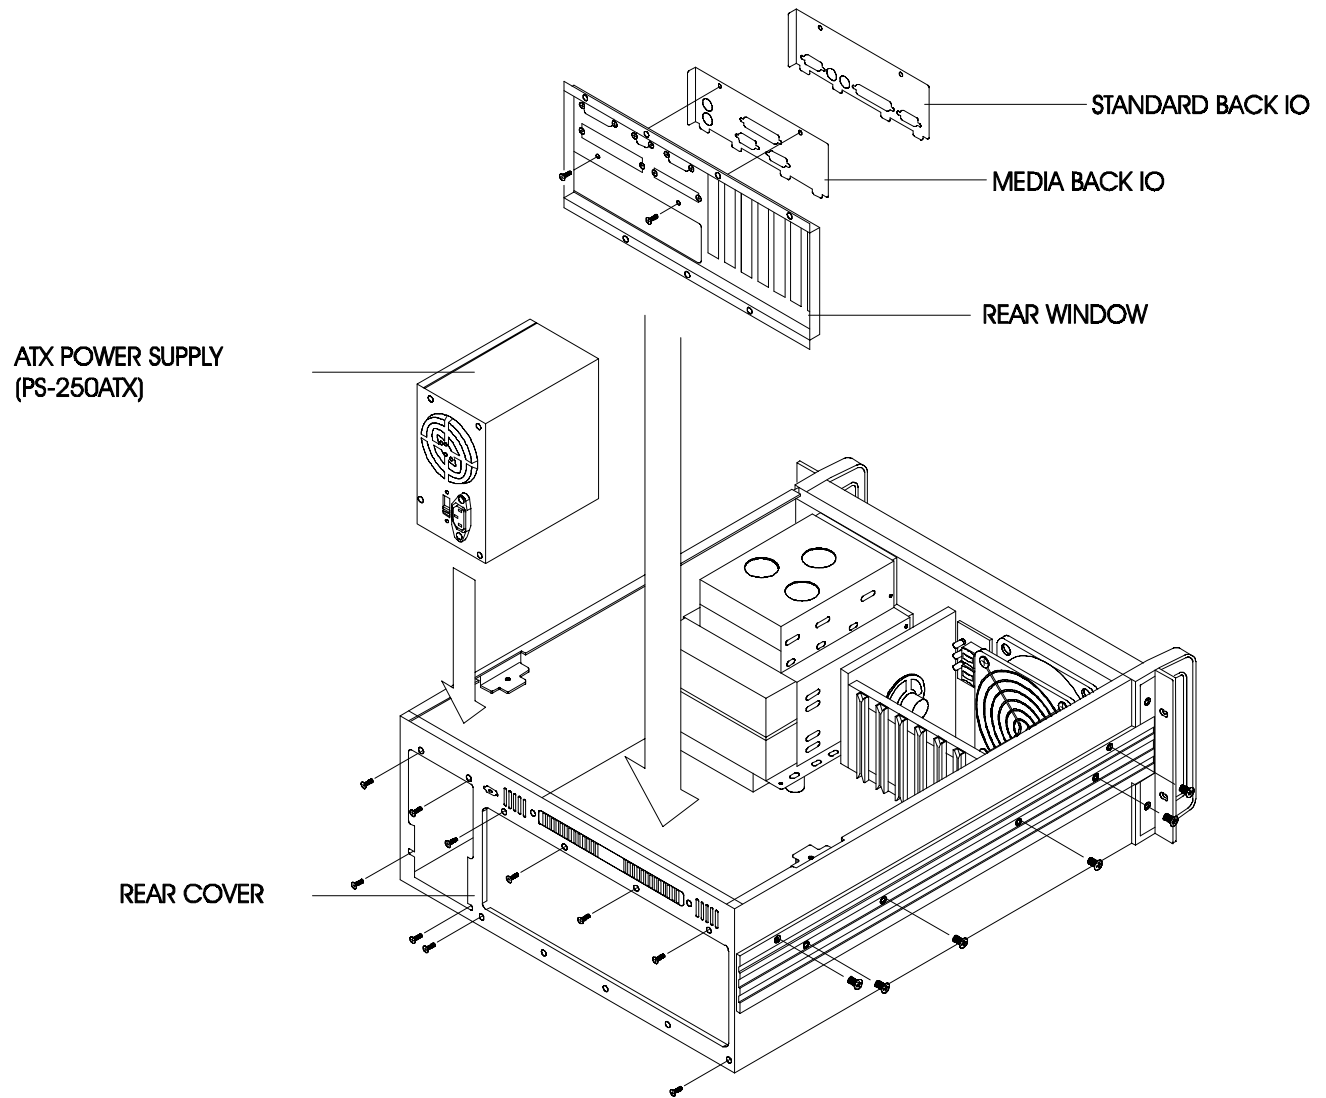

Figure A-5: IPC-610 ATX chassis component layout
2. To change the rear window for standard ATX motherboards, see Fig. A-5.